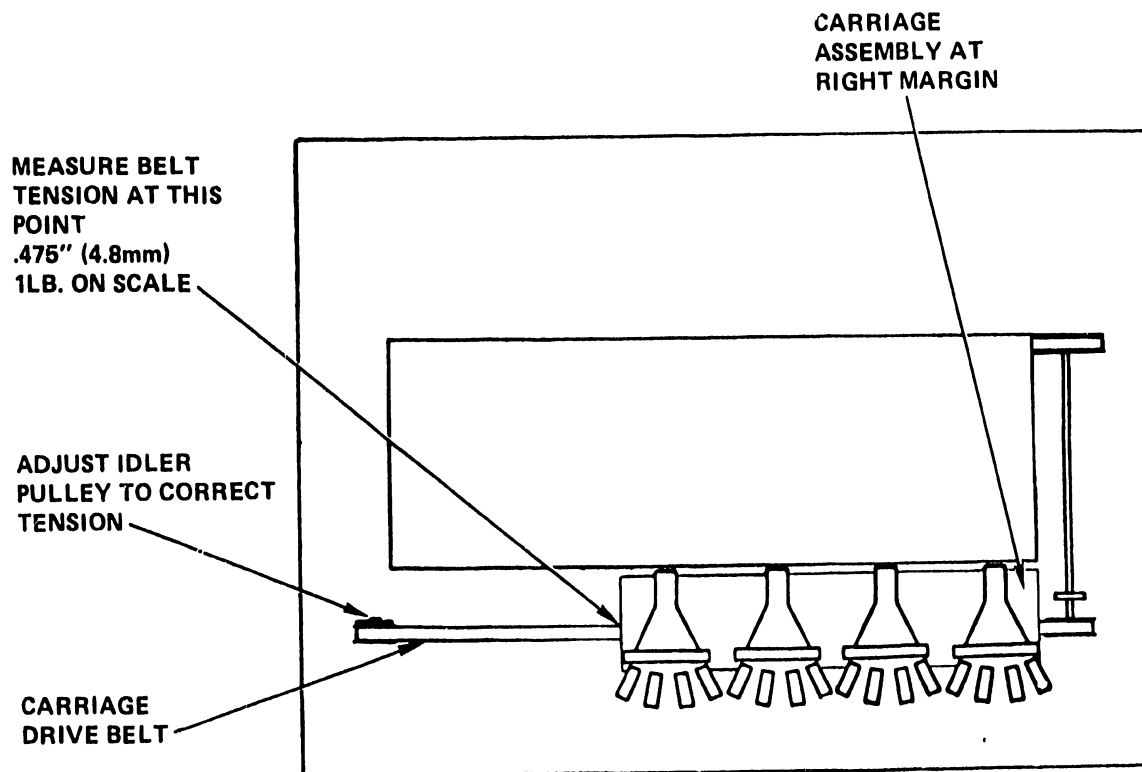

Figure 5-47. Carriage Drive Belt Adjustment
4. Using a spring gauge and scale, deflect the drive belt at the left edge of print head mounting bracket #1. The gauge should read 1 lb. \pm 2 oz. when the belt is deflected 3/16" (4.8 mm). If the belt tension is incorrect, perform the adjustment below. See Figure 5-47.